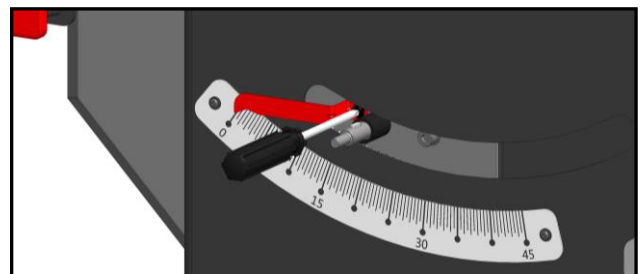

Fig. 28
1. Remove the handwheel by loosening the handwheel lock knob I Fig. 28